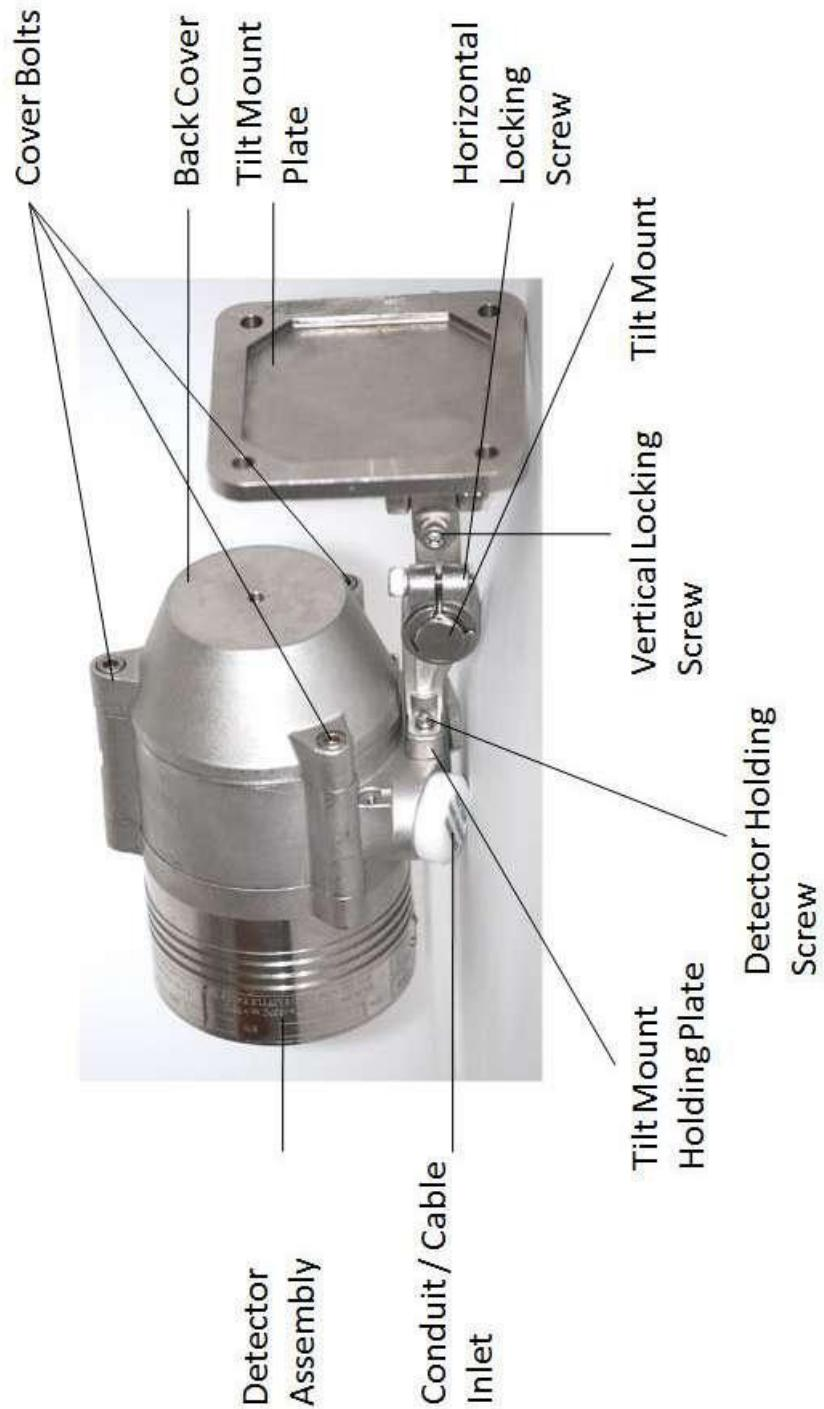

Figure 3: Detector with Tilt Mount
Figure 3 shows the Detector mounted on the Tilt Mount.
- 9 Place and secure the detector's back cover by screwing the four (4) socket-head-screws in the Cover Bolts (Figure 3).